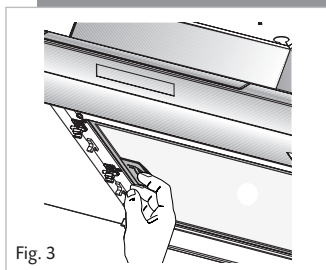

Fig. 3
2. Pull open the handle on the grease filter as shown in fig. 3. It will release at the handle side. Then lower the grease filter to remove it completely.